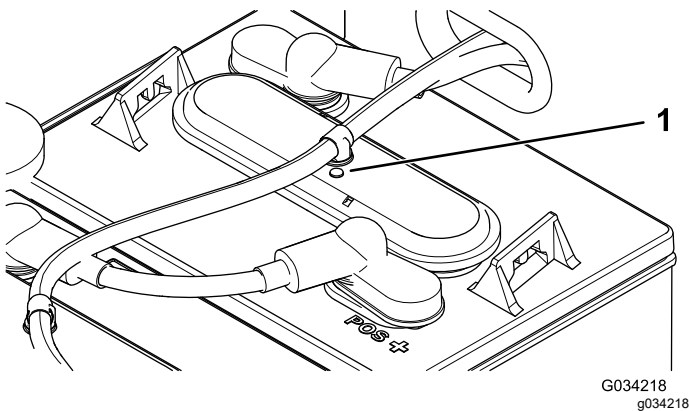

Figure 39
3. Check the eyelets on each of the batteries to see if they are either black or white (Figure 39).